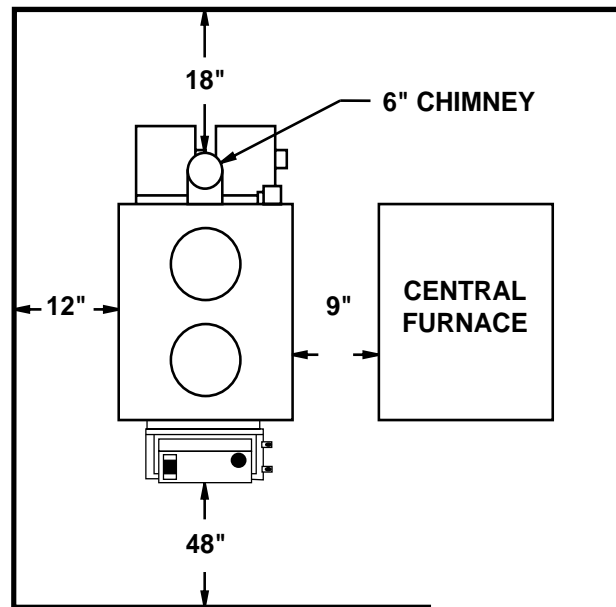

Figure 2
1. The furnace should be located in the same room as the central system and as close as possible, but not closer than 9". There should be no wall between the furnace and the warm air outlet duct that is connected directly to the warm air outlet plenum of the central furnace. (See Fig. 2)
- (Refer to Fig. 2 & 3)
4. Check figures 2 and 3. Be sure you have the clearances shown from the furnace and the connector pipe to combustible surfaces. If you have a solid brick or stone wall behind your furnace, you can place the furnace as close as you wish to the wall. If the wall is only faced with brick or stone, treat it as a combustible wall.
5. Installation for Supplemental Heat Application to Existing Central System. (See Fig. 2 for typical installation.)